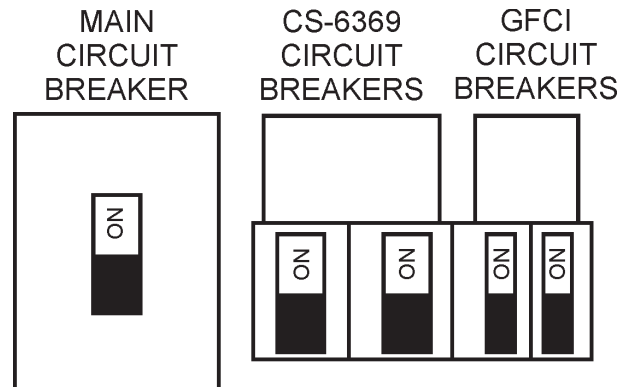

Figure 39. Main, Aux. and GFCI Circuit Breakers (ON)
10. Place the **main**, **GFCI**, and **aux.** circuit breakers in the **ON** position (Figure 39).
1. Place both the **MAIN**, **GFCI** and **LOAD** circuit breakers as shown in Figure 39 to the **OFF** position.
2. To shut-down the engine in the event of an emergency, switch the **MAIN**, **GFCI** and **LOAD** (Figure 39) circuit breakers to **OFF** position.